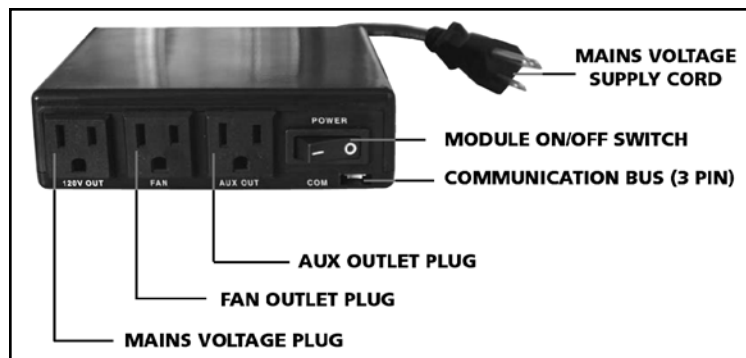

Figure 8: Proflame Fan Control Module.
Fan Control Module (FCM) offers the added ability to control the fan speed through six (6) speeds, a remotely actuated 120V outlet and a constantly powered 120V outlet. The FCM provides DC power to the Receiver allowing the batteries to be used only when line power is interrupted or lost (see Figure 8).